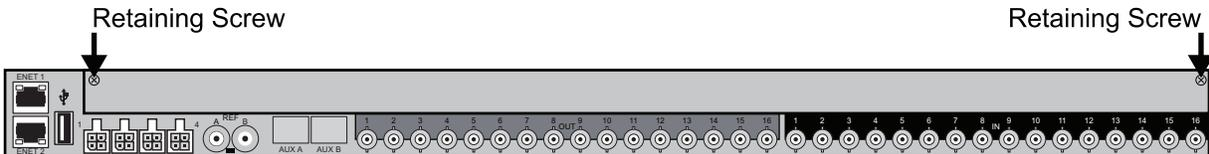

Figure 1 Ultrix Rear Panel — Retaining Screw Locations on the Blank Plate
2. Disengage the captive retaining screws on either end of the Blank Plate. Refer to **Figure 1** for screw locations.